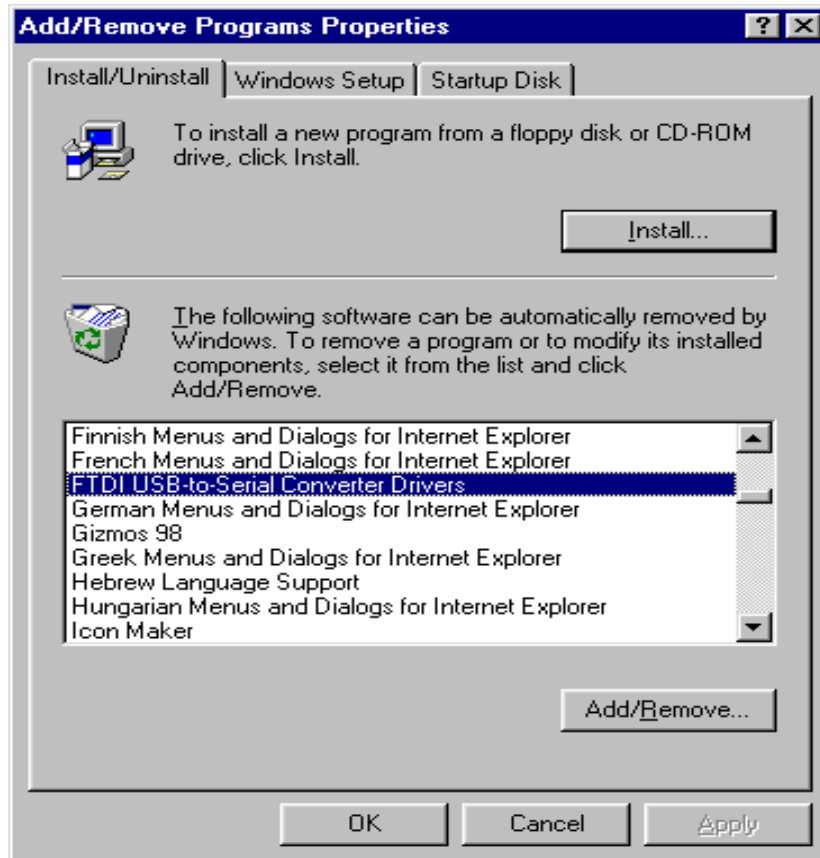

Figure 28
4. Select **FTDI USB-to-Serial Converter Drivers** (Figure 28).
5. Click the **Add/Remove** button (Figure 28).